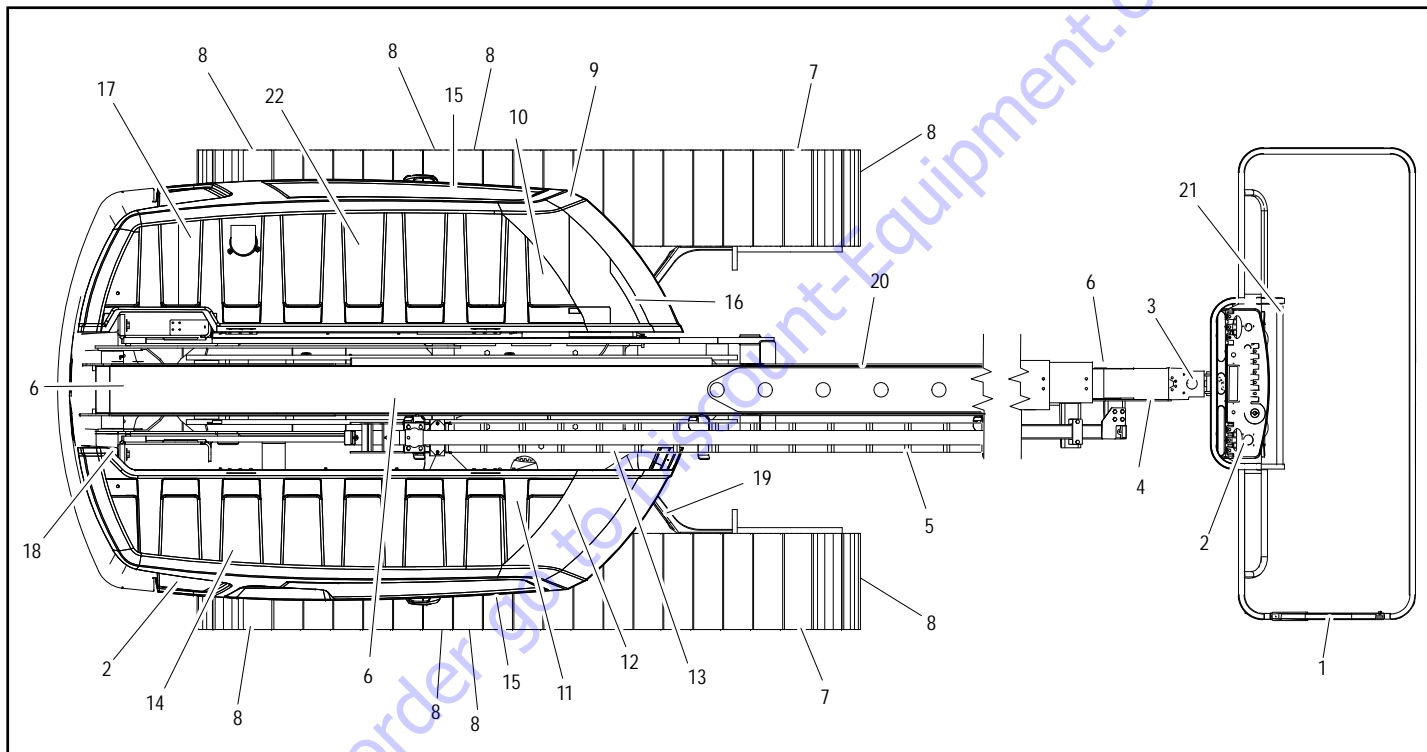

Figure 2-4. Daily Walk-Around Inspection Diagram
5. **“Walk-Around” Inspection** – Refer to Figure 2-4.